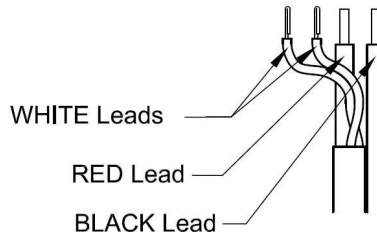

Figure 2 – Connection of battery leads and temp sensor to terminal block.
- 11) Connect the free Positive and Negative terminals of the batteries to the PCB terminals Batt+ and Batt - using the cables provided. See Figure 2.
- 12) Ensure the temperature sensor and battery connections are made according to figure 2.